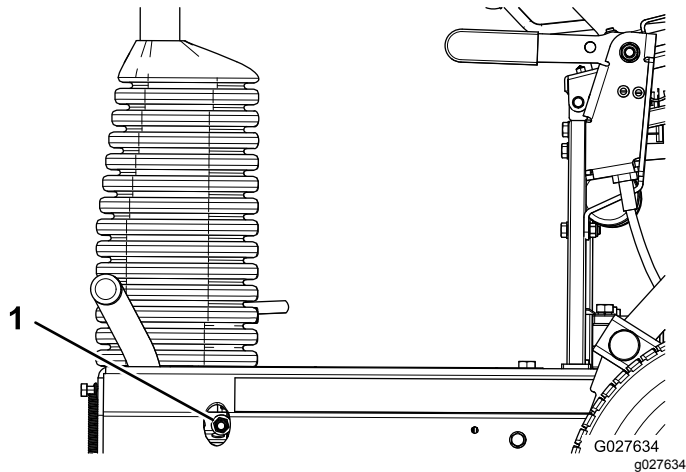

Figure 38
- To increase the brake force, tighten the brake locknut (Figure 38).
- To decrease the brake force, loosen the brake locknut (Figure 38).